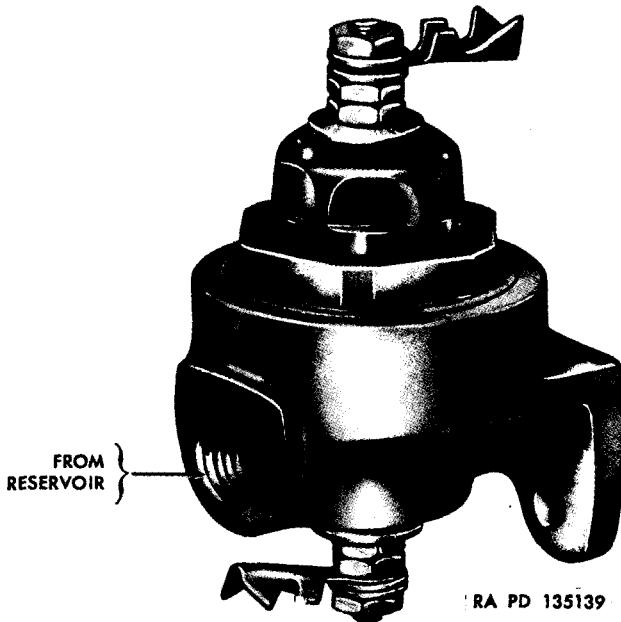

Figure 217. Type LP-2 low pressure warning switch.
b. *Types.* Two general types will be found in service; an older type, LP-1, in which the plastic cover is threaded into the body (fig. 216) and the later type, LP-2, in which cover is secured to body by a threaded retainer (fig. 217). This later type is available in two styles; the standard and the waterproof (fig. 218). The waterproof style dif-